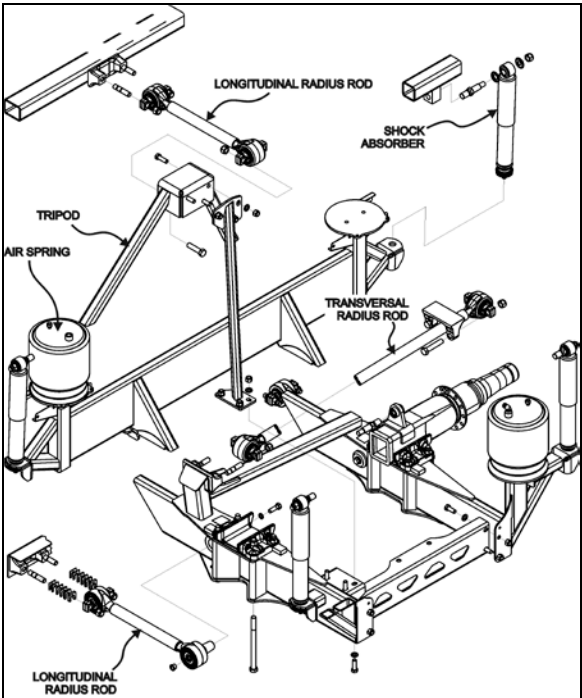

FIGURE 37: DRIVE AXLE, DETAILS OF REAR SUSPENSION
1. Remove nuts and washers from shock absorbers on upper mounting pin and lower mounting bracket, taking care to identify the inner and outer washers to ease reinstallation. Refer to Figure 37 for details.